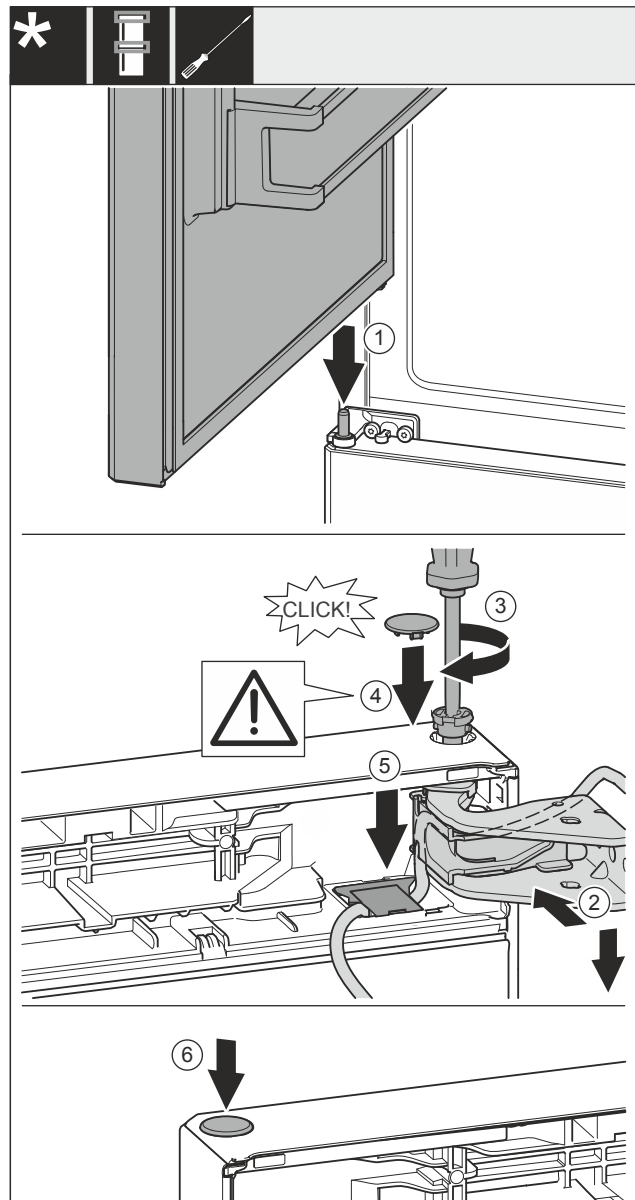

Fig. 36
- ▶ Place the top door on the centre bearing bolt Fig. 36 (1).
- ▶ Align the top door with the opening in the swap bearing block Fig. 36 (2).
- ▶ Insert the bolt Fig. 36 (3) and use screwdriver to tighten it.
- ▶ Insert the cover Fig. 36 (4).
- ▶ Check that the cover Fig. 36 (4) is resting on the door.
- ▶ Insert the cover Fig. 36 (5) and push down until it engages.
- ▶ Insert the cover Fig. 36 (6).